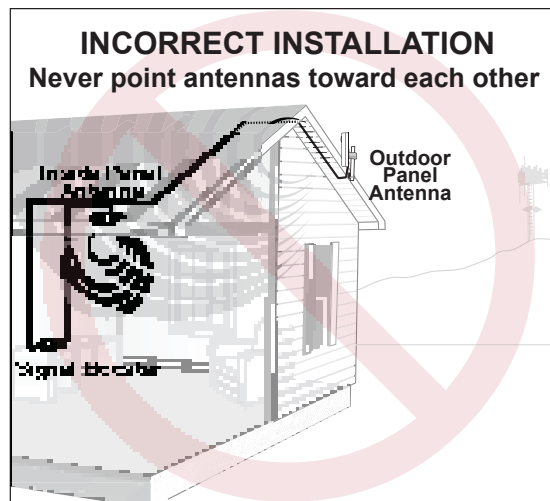

Figure 2
1. Five values are shown and can be selected (refer to Figure 2):